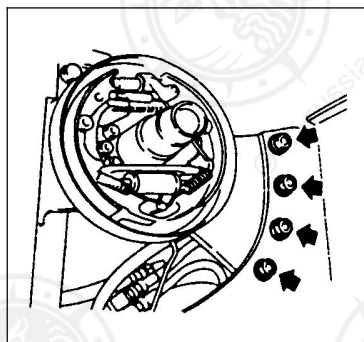

Fig.2-4-3
- 10) Remove bolts securing axle mounting bracket to frame. (see fig.2-4-3) .